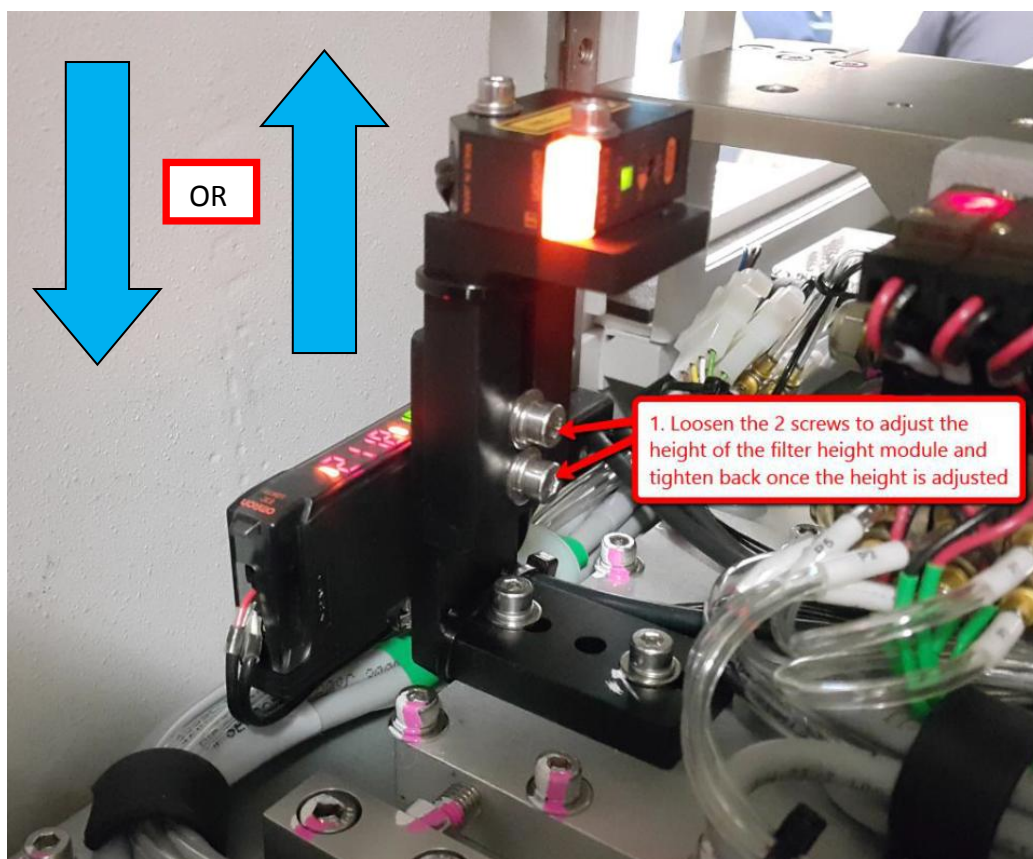

Figure 24 Filter Height Screw
12. By refer to expected spec in Table 3, perform sensor height adjustment as Figure 24